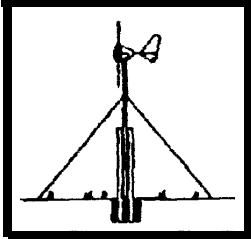

Figure 6
a) Pivot pole supported by guy ropes (Figure 6).